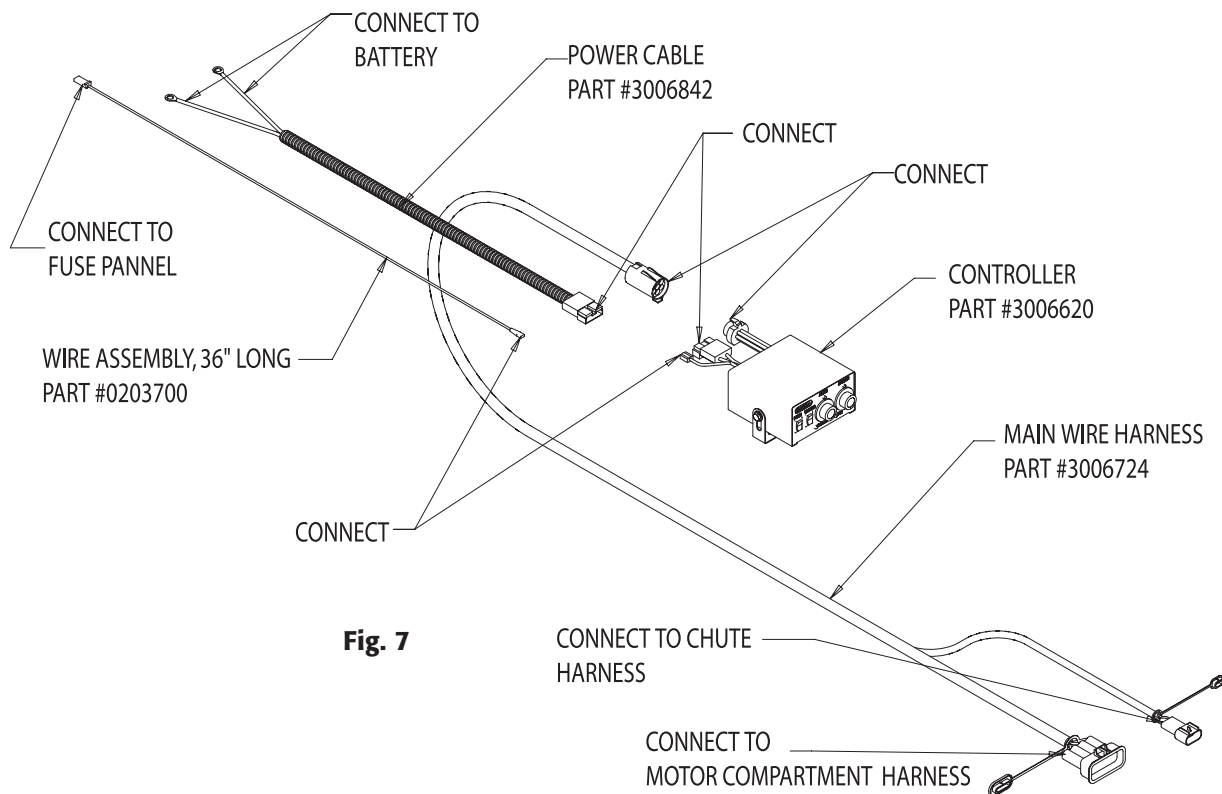

Fig. 7
G. Make sure that the Controller is OFF. Connect blue wire's small female terminal to Controller's Ignition wire. Connect the blue wire from the Controller to an accessory wire/terminal that is controlled by the vehicle's ignition switch (See Fig. 7).